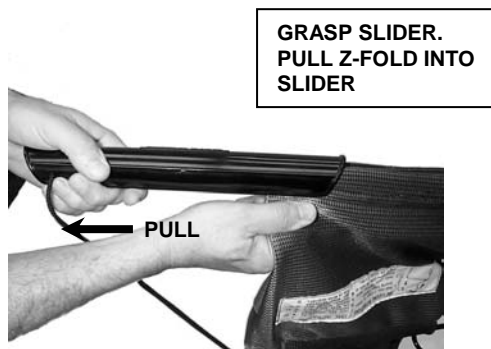

FIGURE 17
STEP 12: Fold bag opening into a "Z" and install slider. See Figure 17.